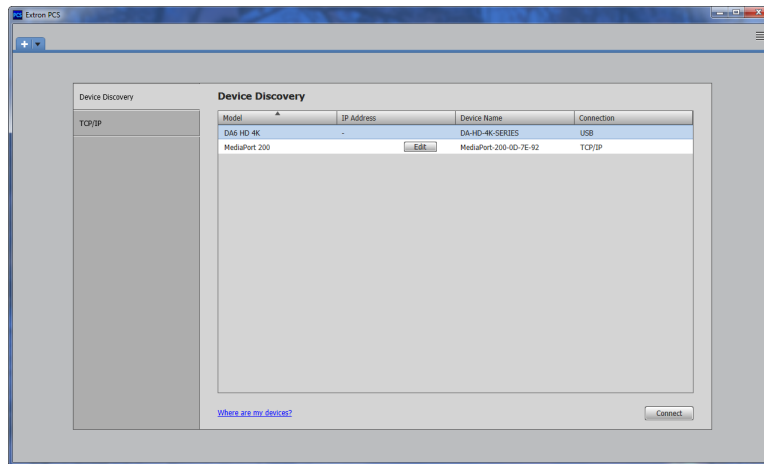

Figure 10. PCS Device Discovery Screen
5. Click **Connect** (see figure 10).